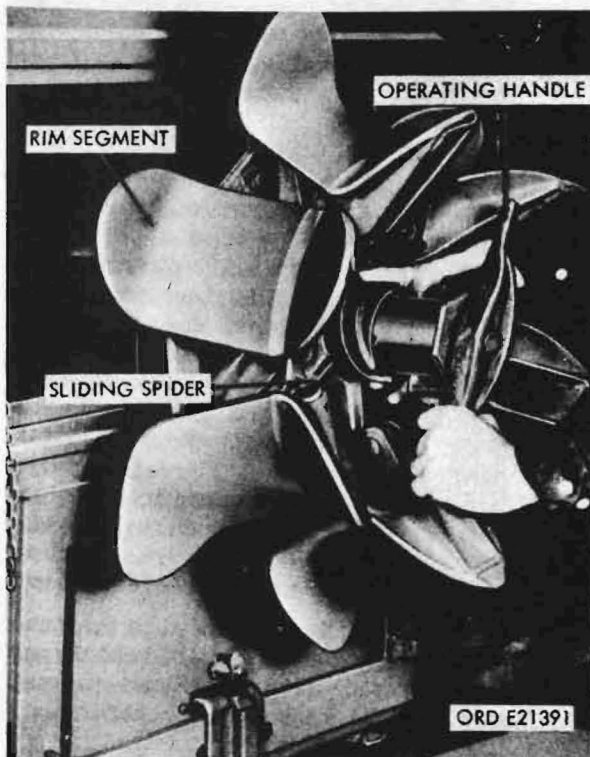
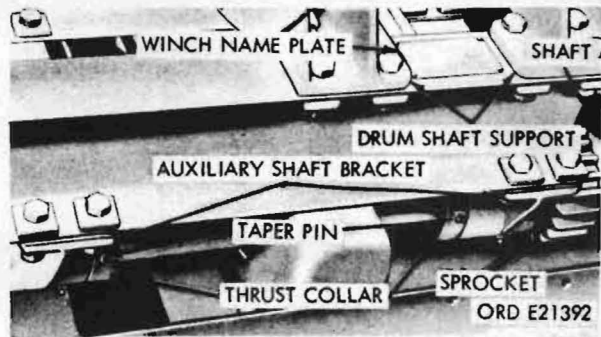

Figure 145. Collapsible cable reel
Figure 146. V-17A/MTQ rear winch auxiliary shaft and auxiliary shaft sprocket
capstan or collapsible cable reel (fig. 145) is mounted during telephone maintenance and construction work. The shaft is driven by auxiliary shaft drive from sprocket on winch drum shaft. An extra drum shaft support (fig. 146) is installed just inside this sprocket to take up this extra load on drum shaft.
c. Collapsible Cable Reel. A collapsible cable reel (fig. 145) is used with V-17A/MTQ rear winch for taking up or laying of wire or light cable. The reel, when not in use, is secured on cable reel holder in body on right rear side. Reel has six movable rim segments controlled by handle-operated sliding spider. Turning operating handle causes sliding spider to move along reel spindle. This